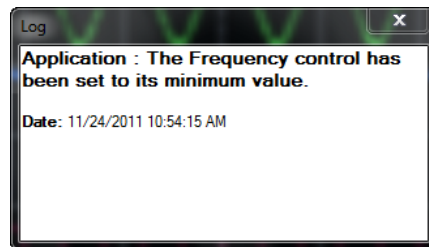

Figure 2-91 Log dialog
- 4 The Log dialog is displayed as shown in Figure 2-91.